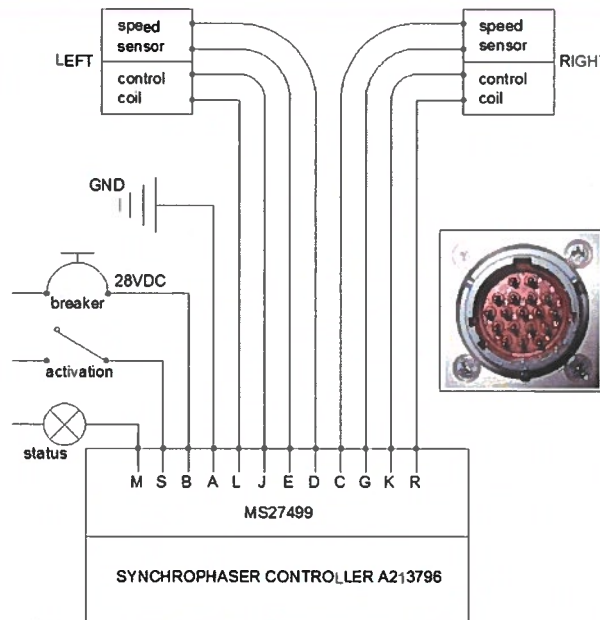

Fig. 5 – Synchrophasing Wiring Diagram for A213796
The wiring harness links the synchrophaser controller to the propeller governors. Figure 5 shows electrical interconnections between all synchrophasing components.
- 2) Test wiring by connecting an ohmmeter to the wiring harness plug connector pins according to the chart and plug illustration shown in Fig. 5 and Table 1.
- 3) If faults are discovered, use the information in the chart in Fig. 5 to correct the problem.